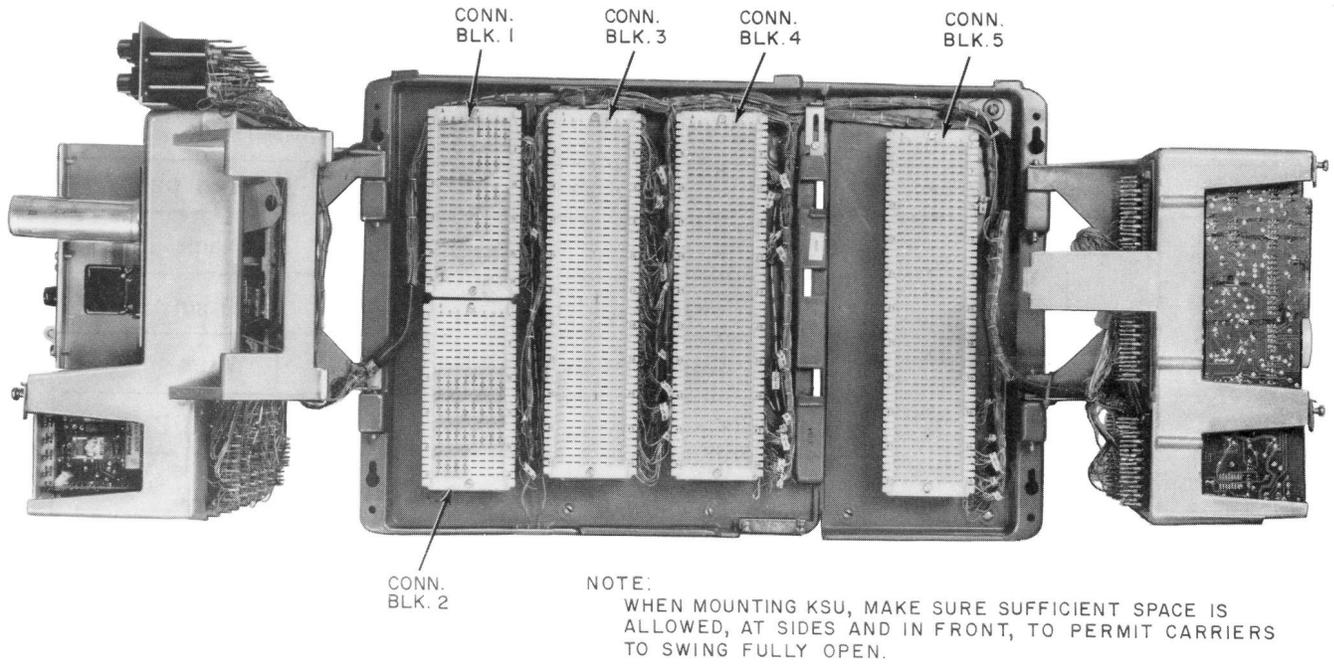

Fig. 2—570- Type KSU (Carriers Open)
**2.05** All wiring connections are made on connecting blocks located in the KSU (Fig. 2). Since all stations pick up all lines on the same button at each telephone set, all equipment connections are factory-wired to the connecting blocks.
- (a) Connecting block 1 (Fig. 2) contains the diode arrangement for preset conference and common audible signaling. Terminals are provided for strapping the power failure transfer, CO ringing, preset conference, paging, and ring transfer.
- (b) Connecting block 2 (Fig. 2) contains the polarity guard diodes for the CO/PBX lines.
- (c) Connecting block 3 (Fig. 2) provides terminals for connecting station code 0 (attendant sta-
(d) Connecting blocks 4 and 5 (Fig. 2) provide terminals for connecting station codes 4 through 19.